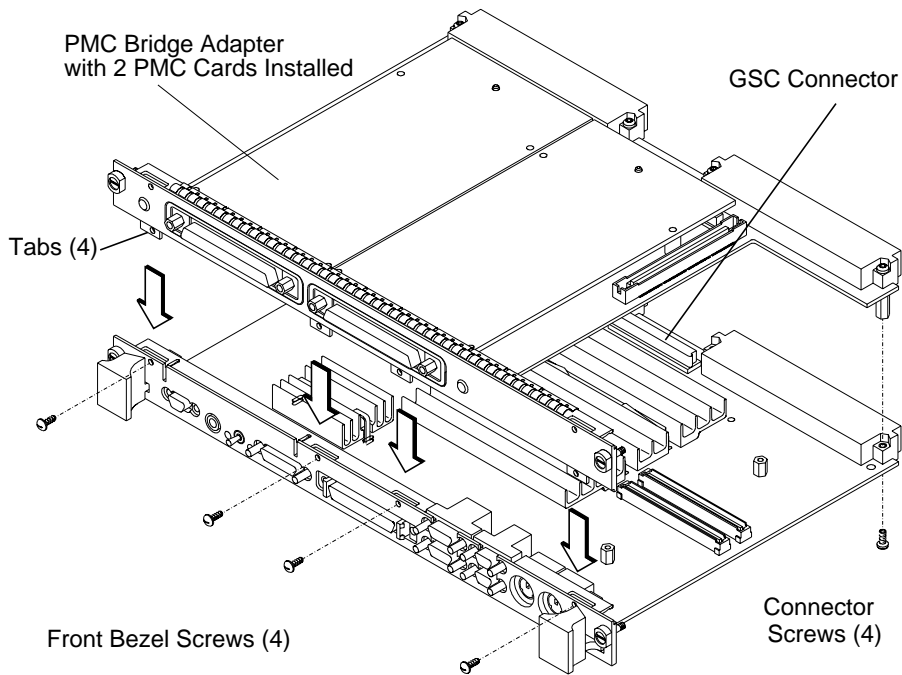
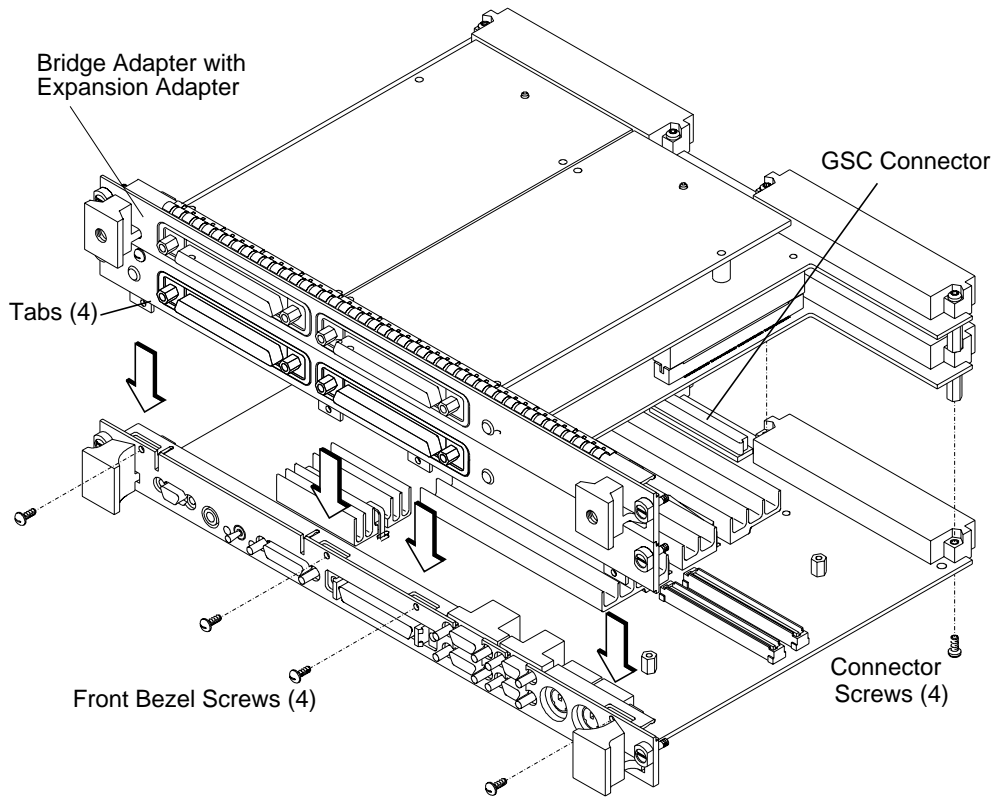

Figure 2-10 **Installing the PMC Bridge Adapter onto the Board Computer**
Figure 2-11 **Installing the Bridge Adapter with the Expansion Adapter onto the Board Computer**
- 7** The bridge adapter should NOT be assembled to the board computer. If it is, remove it by reversing the steps shown in Figure 2-10.
- 11 Install the PMC bridge adapter (as shown in Figure 2-10) or the bridge adapter with expansion adapter (as shown in Figure 2-11) onto the board computer. Align the GSC connector first, then the tabs on the front panel, and push the boards together. There are four screws that secure the front bezel, and four screws that secure the VME connectors.